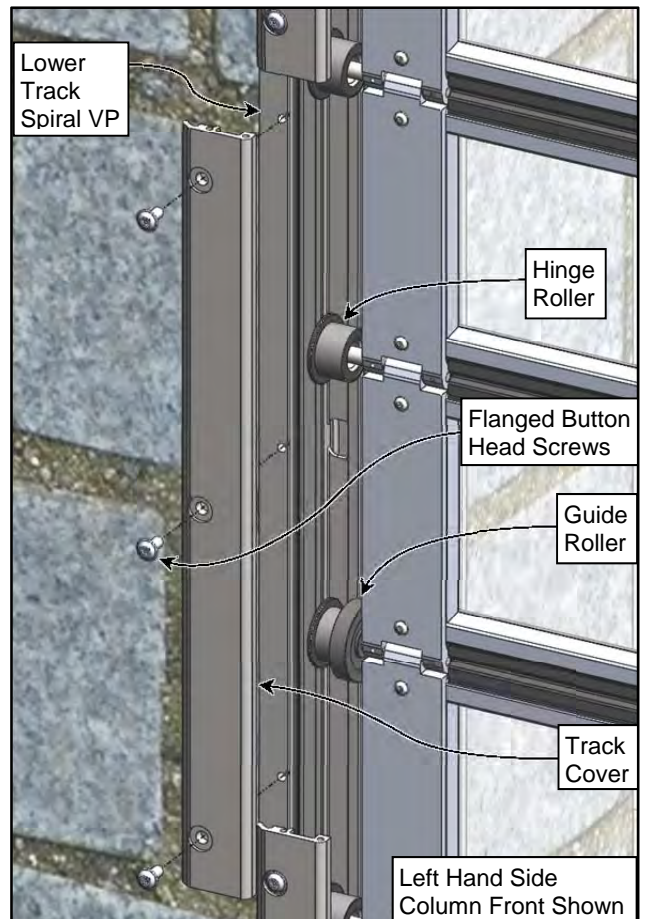

Figure 20
5. Position clamps along both edges of the door above and below the Lower Track Assembly track cover to be removed to prevent unexpected door movement as shown. (See Figure 20)
Inspect the rollers and guides for damage or wear. Replace as needed. To replace a roller or guide, see "DOOR ROLLER REPLACEMENT" section on page 27. (See Figure 20)